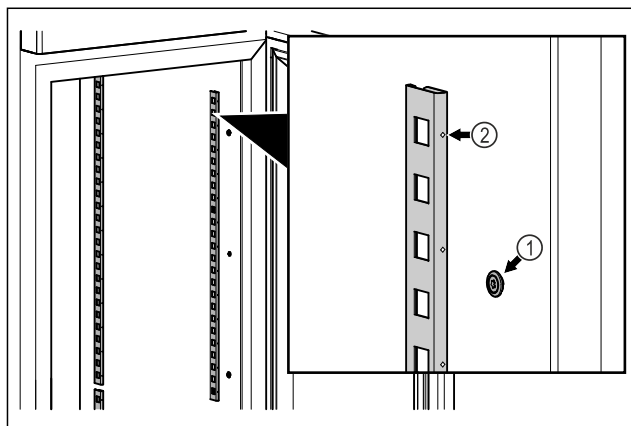

Fig. 56 Example illustration
- Hook the snap strips into the suspension Fig. 56 (1). Mark Fig. 56 (2) must point forward.